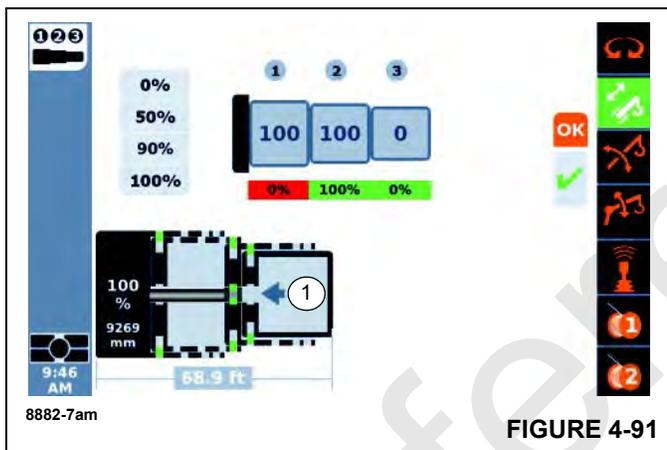

FIGURE 4-91
It is important to understand that a new requested final boom configuration (“target tele picture”) may require the boom to be retracted first. For example, if the requested final boom configuration is currently 100-100-0, and the boom is extended to this configuration, and then a new requested final boom configuration (such as 0-100-100) is entered, it is impossible to use the new configuration unless the existing boom sections are retracted first. When this condition arises, only the left telescoping direction arrow (1), (Figure 4-91) will be shown on the display. When the boom is fully retracted, then the automated motions should proceed to the new configuration. That is, for the example, when T2 is locked at 0% (after using the joystick to retract everything), then telescoping cylinder can move to the T3 boom section to be unlocked (since it is the first boom section to move for the new final boom configuration of 0-100-100).